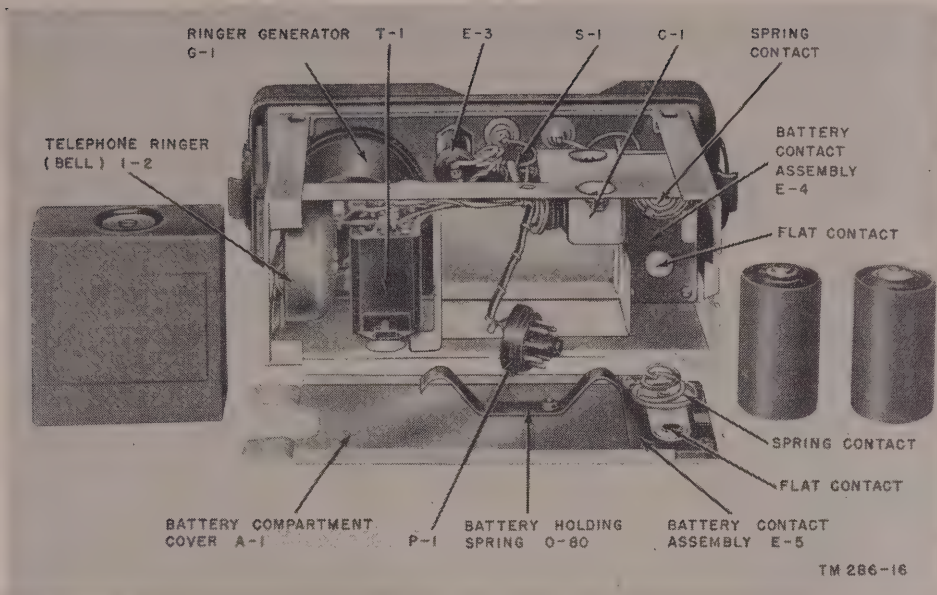

Figure 30. Remote Control C-433/GRC, internal view.
- (1) Release the two snap catches which hold the outer case to the panel-chassis assembly, and remove the assembly from the case.
- (2) Remove the tape which secures the battery compartment cover to the sides of the unit, and remove the cover. Slide the cover back slightly to clear the tab on the left side and lift the cover.
- (3) Install two 11½-volt Batteries BA-30 side by side in the battery compartment. Make sure that one battery rests with the positive terminal against the flat contact and the other with the negative terminal against the spring contact at the bottom of the compartment.
- (4) Install a 45-volt Battery BA-414/U in the large compartment in the chassis frame, so that the octal socket on the battery faces up (toward the rear of the unit).
- (5) Insert octal male plug P-1 (fig. 30) into the socket on the battery.
- (6) Replace the compartment cover by inserting the two projections at the right edge under the bracket angles on the right side of the chassis. Press the cover down and slide it forward until the tab on the right side of the cover slides under the chassis tab. Release pressure.
- (7) Check that the batteries are making contact with the cover.